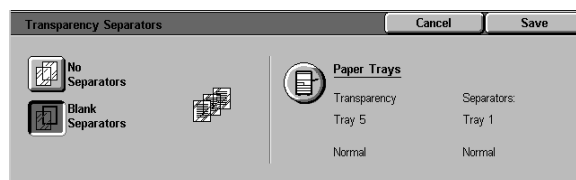

Figure 17: Transparency Separators screen with Blank Separators selected
- **Blank Separators** (Figure 17)